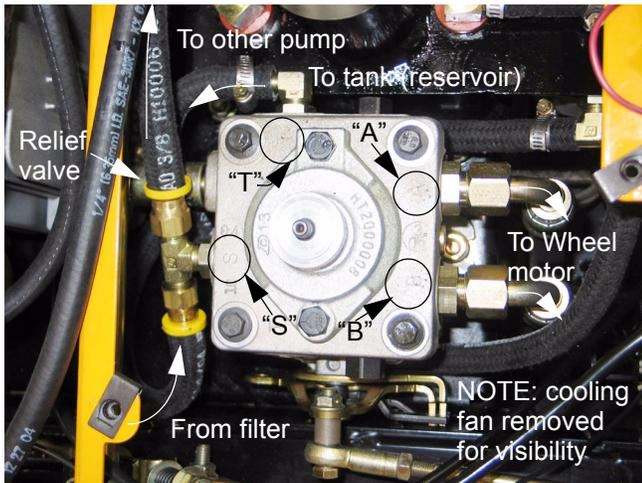

Figure 23.8
23.8. The fluid will also drain out of the lines leading to the pumps. See Figure 23.8.